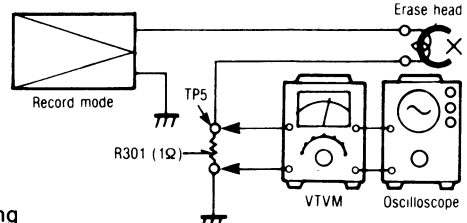

Fig. 9
- Test equipment connection is shown in fig. 9.